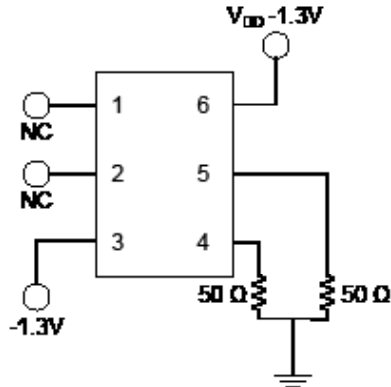
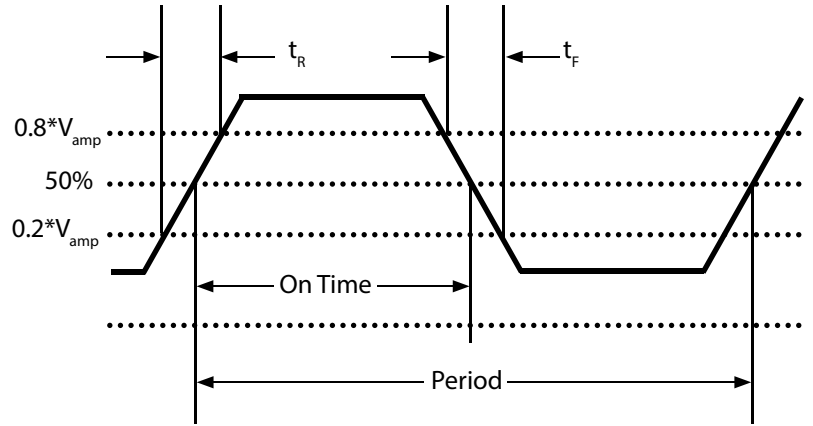
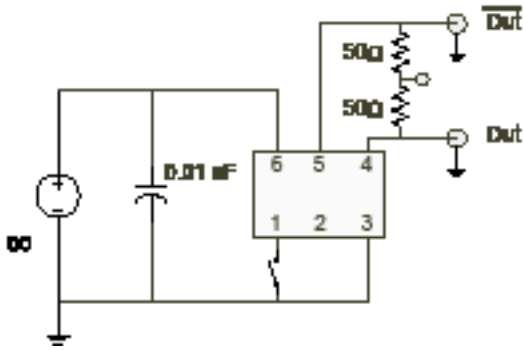

Figure 1 - LV-PECL test circuit
Figure 2 - Waveform
Figure 3 - LVDS test circuit
4. Figure 1 shows the test circuit and Figure 2 defines these parameters.
4. Figure 3 shows the test circuit and Figure 2 defines these parameters.